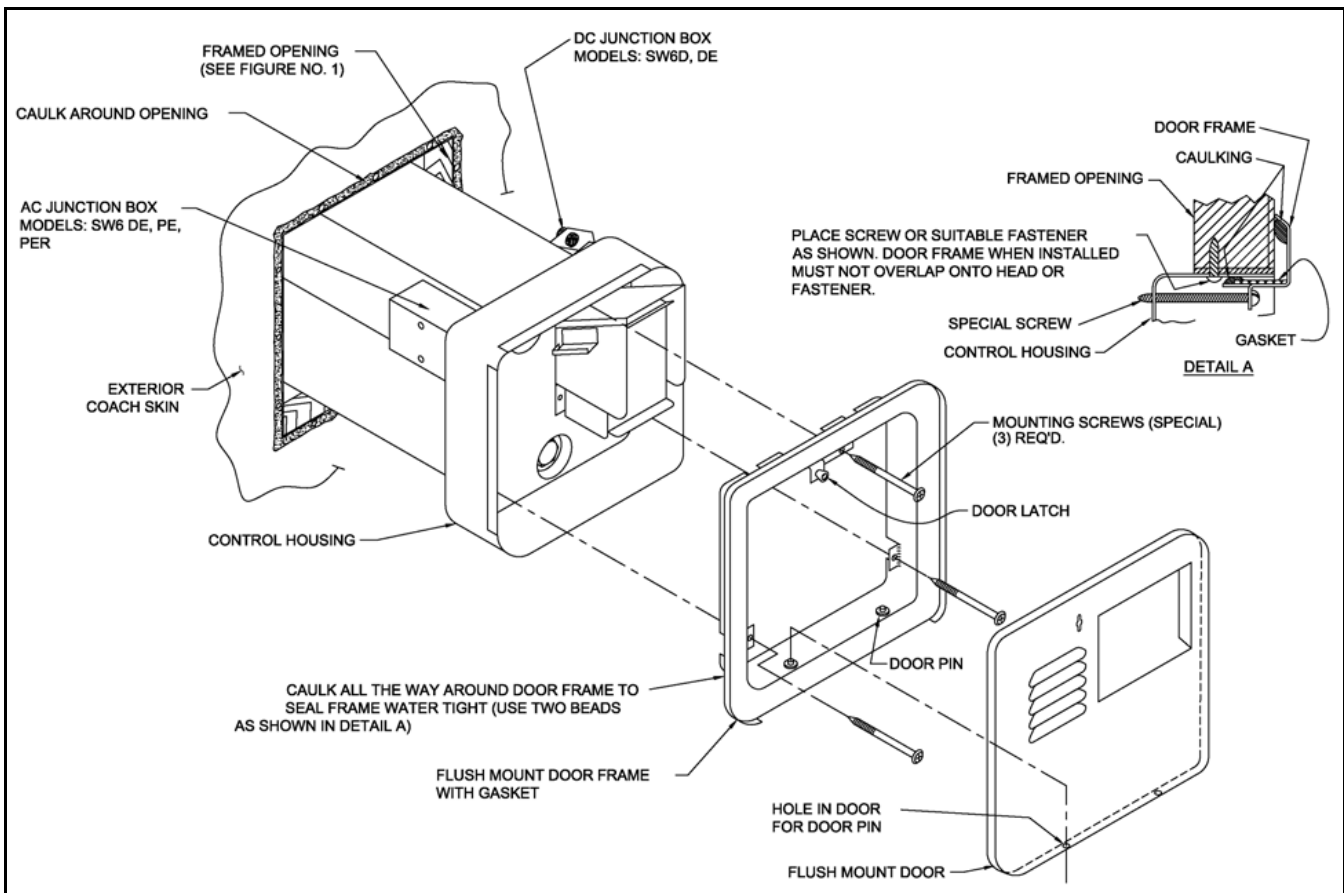

Figure 2
INSTALLATION USING FLUSH MOUNT FRAME & DOOR (See Figure 2 for illustration)
- B. Refer to Figure 2 for location of D.C. junction box on models SW6D and SW6DE. Refer to Figure 5 and 6 for location of D.C. junction box on models SW6DM and SW6DEM.
- B. Refer to Figure 2 for location of A.C. junction box on model SW6DE. Refer to Figure 6 for A.C. junction box on model SW6DEM.